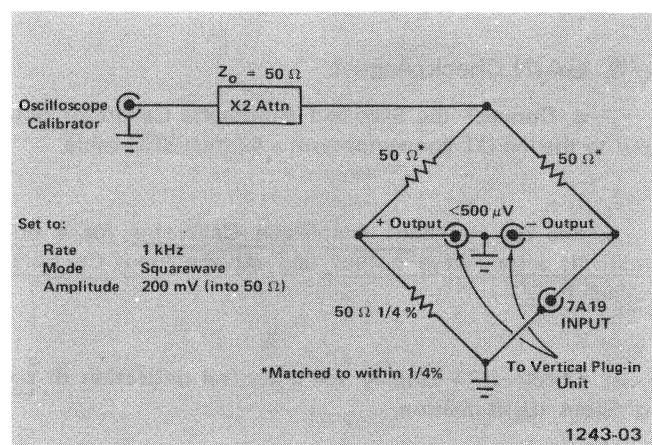

Fig. 5-2. Test circuit for adjusting input Resistance.
- Connect test circuit as shown in Fig. 5-2.